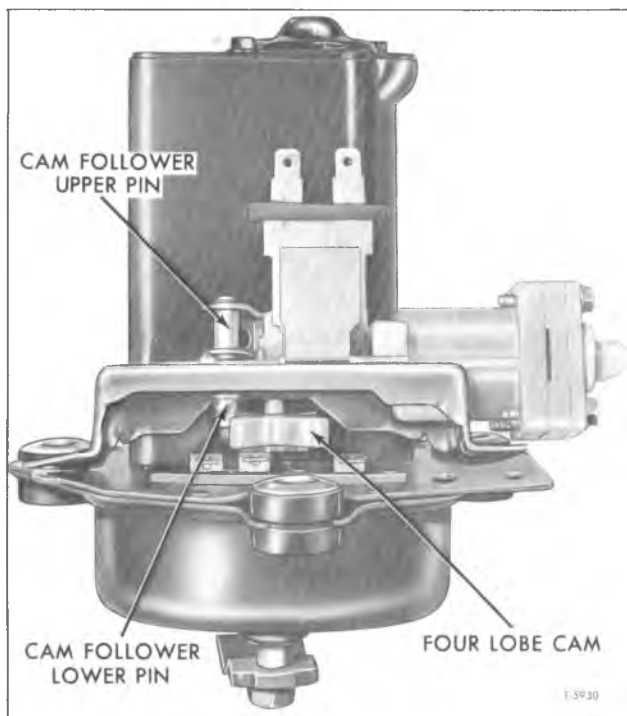

Figure 16—Separating Pump from Motor
2. Remove washer pump drive cam (fig. 16). Cam is pressed on shaft but may be removed by carefully wedging two screwdrivers between cam and plate.